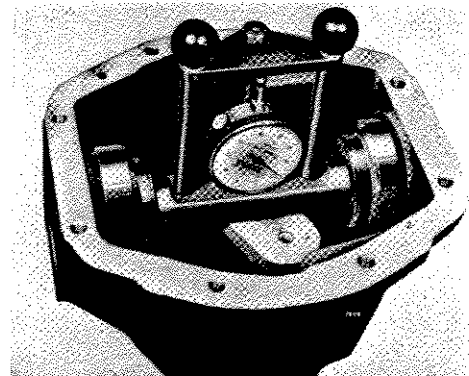

Fig. 80.
To determine the thickness of the shim pack (59) to be inserted under the pinion head bearing outer race (60), place the zeroed gauge in the axle casing with the stylus contacting the ground face of the dummy pinion (Fig. 80). Exerting downwards pressure on the gauge body, rock it in the differential trunnion bearing bores and observe the swing of the needle. The minimum reading is obtained when the gauge stylus is parallel to the pinion centre line and this value indicates the thickness of the shims required under the head bearing outer race.